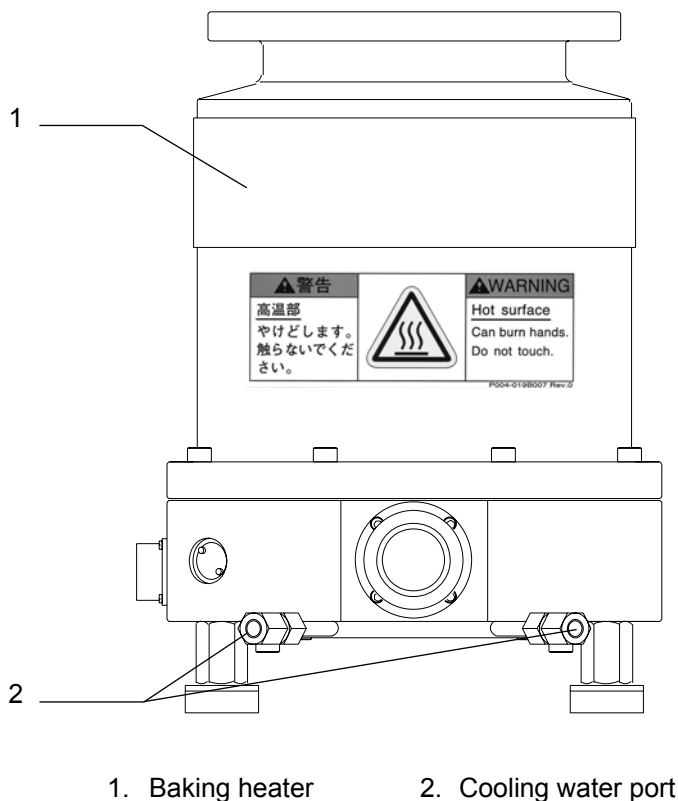

Figure 15 - Positions of the cooling water port and baking heater
Secure the connection pipe to prevent water leakage and use cooling water under the conditions provided in the STP Pump Instruction Manual (B). Install a secondary containment for liquids or a water leak detector in the place (ex. cooling water ports) where cooling water may leak. Figure 15 shows the position of the cooling water ports. The STP pump in Figure 15 is a typical pump model. Refer to the STP Pump Instruction Manual (B) for the configuration of each STP pump.
2. Affix the hot surface warning label attached on the surface of the pump seen well. (see Figure 15)